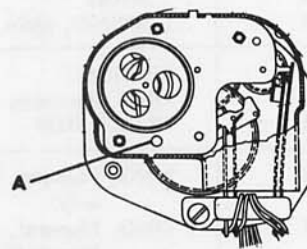

Figure 5. Alignment of parts for assembly.
- (1) Install the bushing (6) with the protruding end of the inner bushing toward the bracket (10) and so the slot fits over the tab of the bracket.
- (2) Rotate the main gear until the round hole lines up with hole "A" in figure 5.
- (1) Slip the actuator on the mainshaft, with flat side to surface of maingear, and rotate counterclockwise to the stop on the maingear (See figure 5).
- (2) Install contact spring assembly